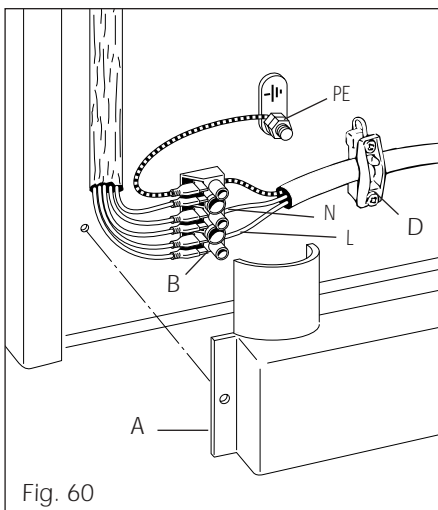
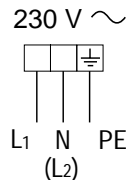

Fig. 60
Fig. 61
- Remove the screws securing the cover "A" on the rear of the cooker (fig. 60).
- Connect the wires to the terminal block "B" as shown in the diagram in figure 61; or connect the phase wires to the terminal block "B" and the earth wire to the terminal PE as shown in figure 60.